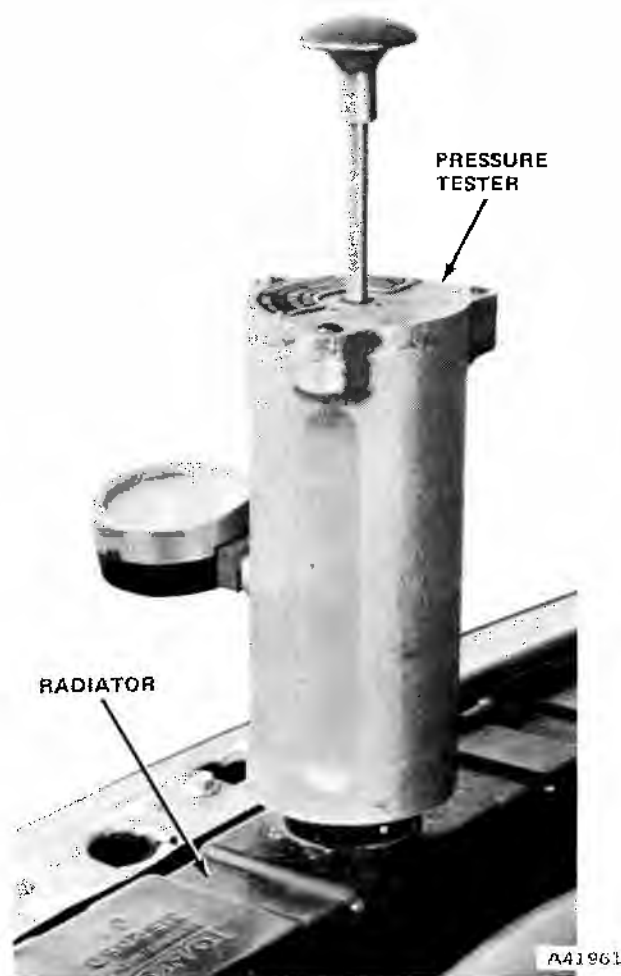

Fig. 2-14 Cooling System Pressure Test
- (1) Carefully remove the radiator pressure cap from filler neck.
(2) Check coolant level.
(3) Wipe inside of filler neck. Examine lower inside sealing seat of filler neck for nicks, dirt, and solder bumps.
(4) Inspect overflow tube for dents or internal obstruction. Run a wire through tube to be sure it is clear.
(5) Inspect the cams on outside of filler neck. If cams are bent, seating of pressure cap valve and tester seal will be affected. Bent cams can be reformed if done carefully.
(6) Attach pressure tester to filler neck with locking ears in line with entrance notches of filler neck (fig. 2-14). Press down slightly and rotate clockwise until locking ears are stopped by stop lugs on filler neck. DO NOT FORCE.